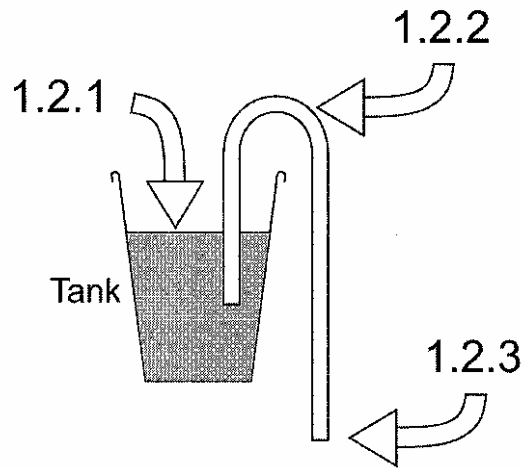

FIGURE 1 (5)
- 1.2 Explain siphonic action with the aid of FIGURE 1 by giving a description of what is happening at the three positions indicated by the arrows. Write your answers next to each question number (1.2.1 – 1.2.3) IN THE ANSWER BOOK.